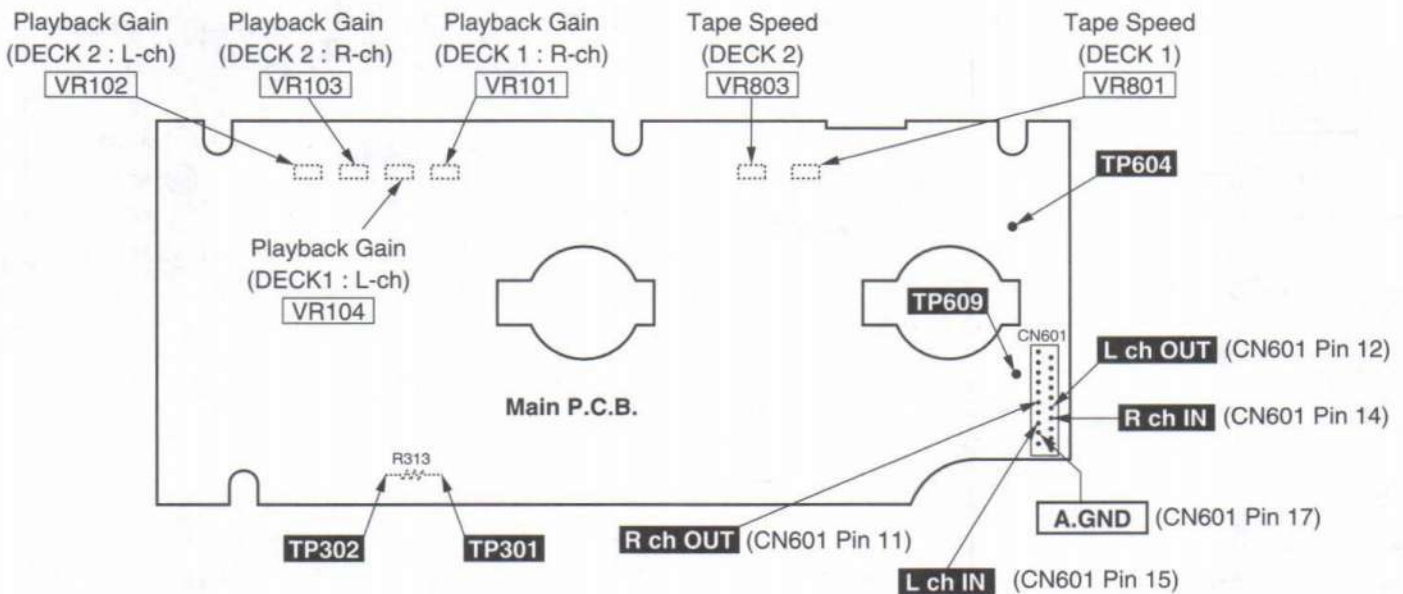

Fig. 1
2. Adjust Deck 1 = **VR801** and Deck 2 = **VR803** for the output value shown below. (Refer to Fig. 1)
2. Adjust Deck 2 : **VR102** (L-ch) [**VR103** (R-ch)] and Deck 1 : **VR104** (L-ch) [**VR101** (R-ch)] so that the output is within the standard value. (Refer to Fig. 1.)